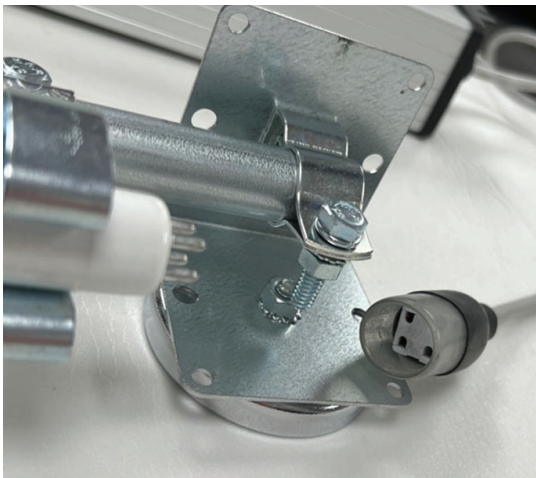
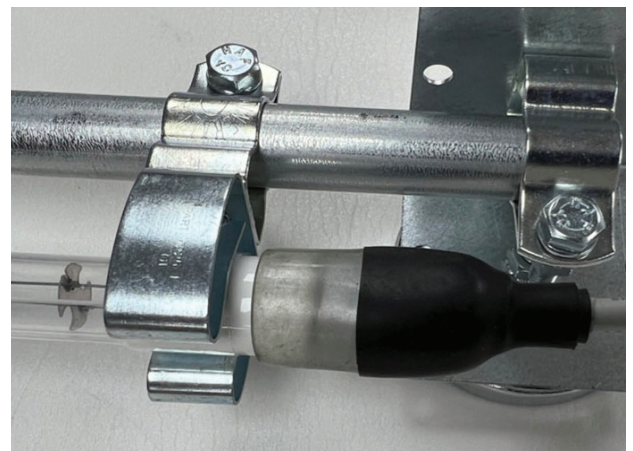

Figure 4A:
Figure 4B:
The UV lamp cable is prewired from the magnetic power enclosure. The lamp connection side of the cable is shown in Figure 4A. The cable connector is keyed to match the UV lamp pins. Align the lamp pins with the connector and push together. If connection is not made easily, rotate the connector 90° and then push together. The proper lamp connection should match Figure 4B.
5. Connect UV lamp cable(s) to lamps (reference Figures 4A and 4B).